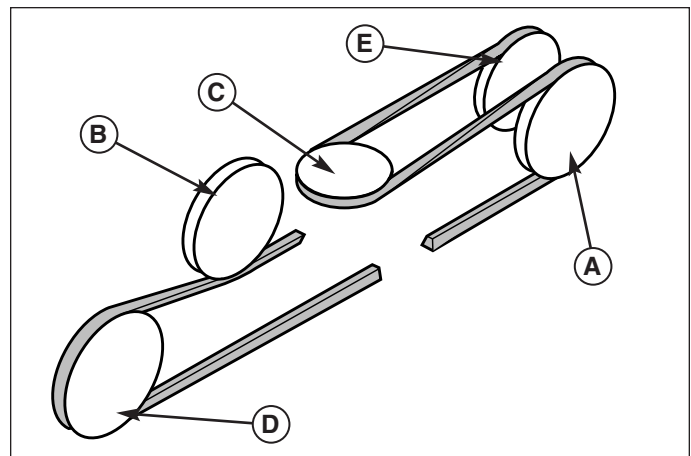

**Figure 11. Adjusting Belt Tension**
1. With the snowthrower drive belt installed, trunnion (A, Figure 11) should be between marks (G) on spring tension bracket (B) for correct belt tension.
2. Turn belt tension handle (C) to move trunnion (A) forward or rearward until it is between marks (G).
3. If trunnion cannot be placed between marks, loosen capscrew (D) and reposition idler pulley (E) as necessary. The pivot bracket (F) should be perpendicular to the hitch. Retighten capscrew (D) and repeat step 2.
1. Loosen the drive belt by turning the handle (C, Figure 11).